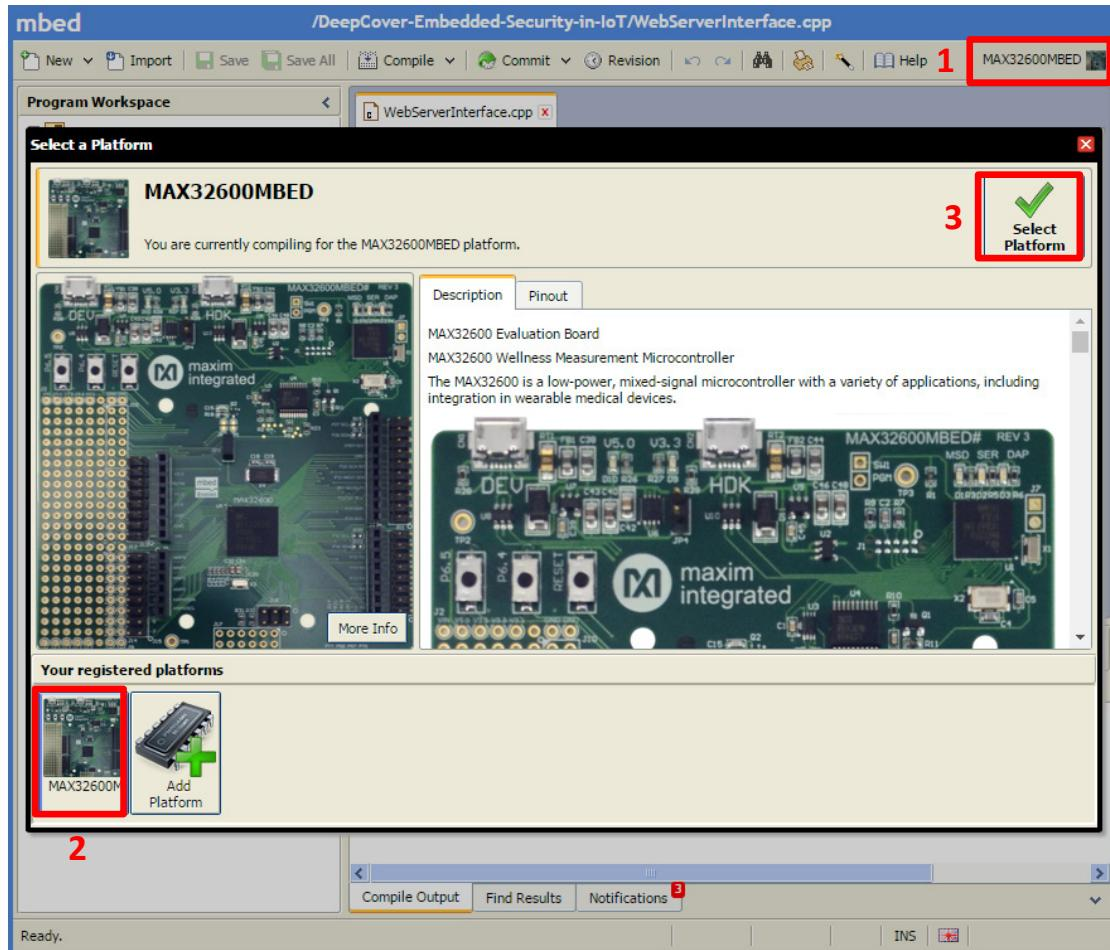

Figure 3. Selecting the MAX32600MBED as the compiler target.
| Figure 3. Selecting the MAX32600MBED as the compiler target. | 5 |
2. Return to the online compiler page, and select the MAX32600MBED as the compiler target by the following steps in **Figure 3**: